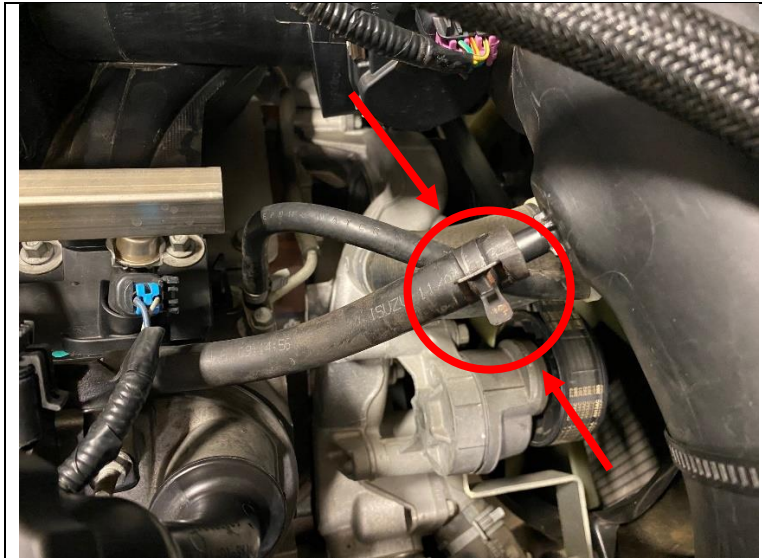

Figure 5
7. Disconnect the PCV hose from the air intake duct. (See Figure 5.)